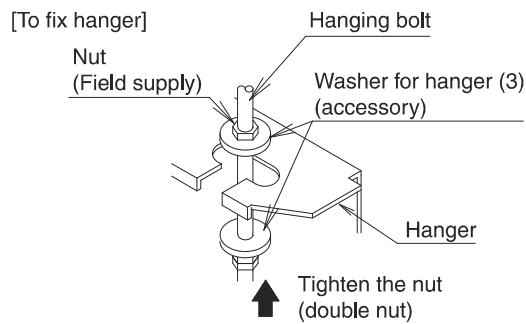

Fig. 7
(1) Install the indoor unit temporarily.
- Fix the hanger to the hanging bolt. Make sure to securely fix the hanger with the nut and the washer for hanger (3) from the upper and lower side. (Refer to Fig. 7) If the washer clamp (7) is used, the upper side washer for hanger (3) may be protected from falling off. (Refer to Fig. 8)